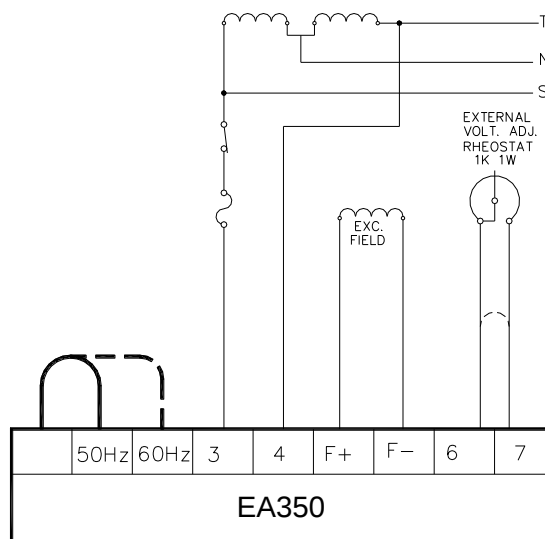

Figure 5 1Ø 220VAC Diagram
- See Figure 5~6 for typical connection diagram.
See Figure 5~6.
When using a remote voltage adjust rheostat, remove the jumper wire across terminals 6 and 7 and install a 2000 ohm 1/2 watt (minimum) rheostat. This will give $\pm 10\%$ voltage variation from the nominal. (For $\pm 5\%$ voltage variation use a 1000 ohm 1/2 watt rheostat). See Figure 5~6.